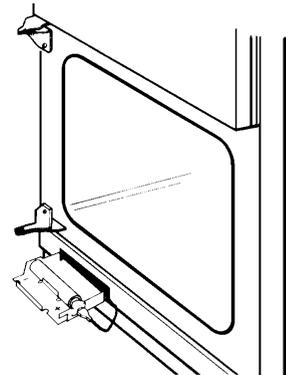

Fig.5
1. The battery is located on the left hand side of the front plinth and can be viewed through a slot in the bottom left hand corner of the front frame( Fig .5).